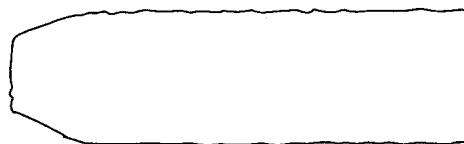
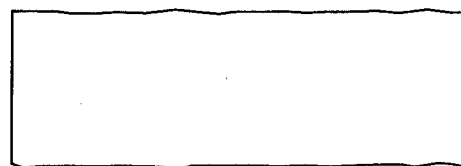

Fig. M7
Fig. M9
3. If the envelope is as shown in Fig. M7, adjust the height of Guide Roller [2] (Refer to Fig. M3) so that the waveform looks like the one shown in Fig. M9.
4. If the envelope is as shown in Fig. M8, adjust the height of Guide Roller [3] (Refer to Fig. M3) so that the waveform looks like the one shown in Fig. M9.
5. When Guide Rollers [2] and [3] (Refer to Fig. M3) are aligned properly, there is no envelope drop either at the beginning or end of track as shown in Fig. M9.